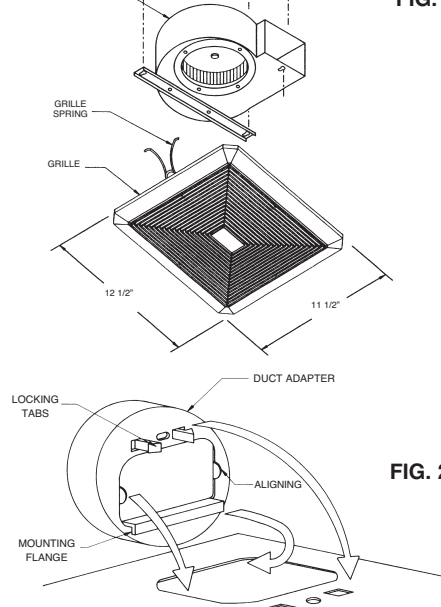

FIG. 2
4. Attach duct adapter to housing by first hooking mounting flange over edge of air discharge opening. Pivot duct adapter insuring (2) aligning tabs are inside opening and align (2) locking tabs with small rectangular holes. Press firmly into holes to lock. See Fig.2.